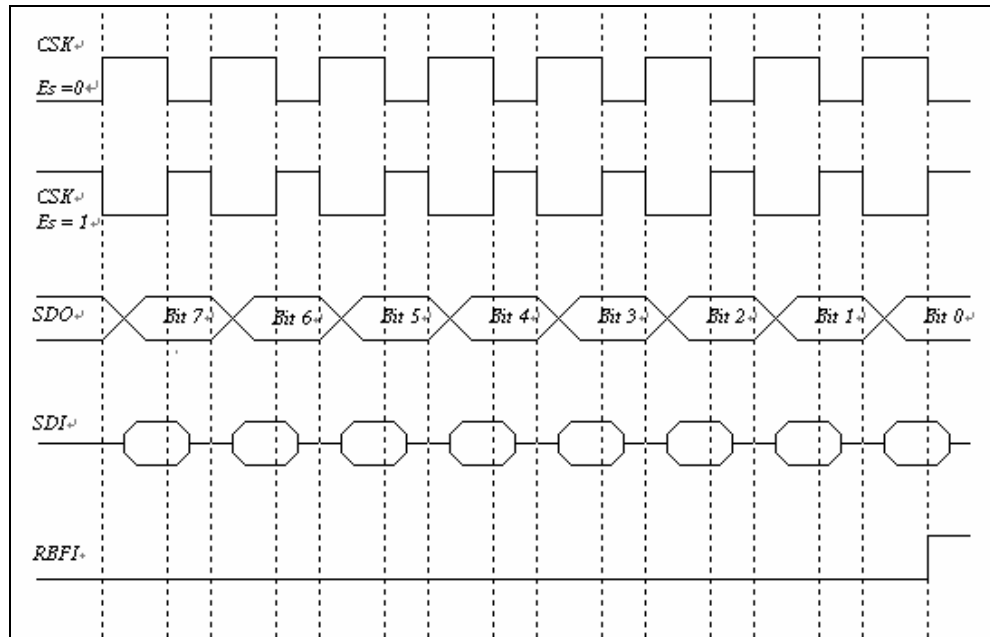
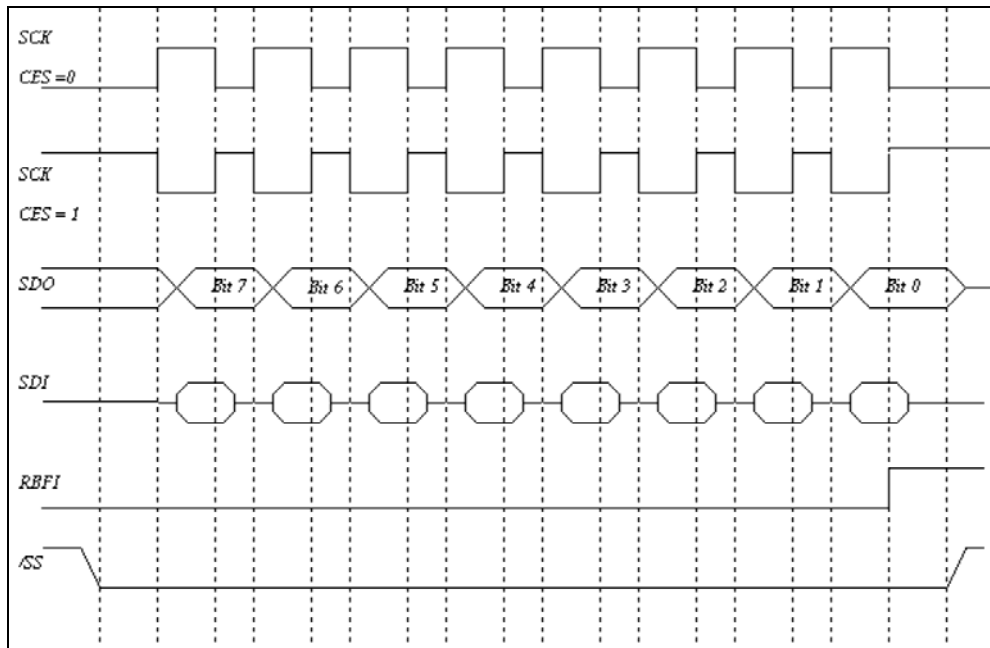

Figure 5-9 SPI Mode with /SS Disabled
Figure 5-10 SPI Mode with /SS Enabled
- Timing is shown in Figure 5-9 and 5-10.
- Timing is shown in Figures 5-9 and 5-10.
The SCK edge is selected by programming bit CES. The waveform shown in Figure 5-9 is applicable regardless whether the EM78680 is in master or slave mode with /SS disabled. However, the waveform in Figure 5-10 can only be implemented in slave mode with /SS enabled.